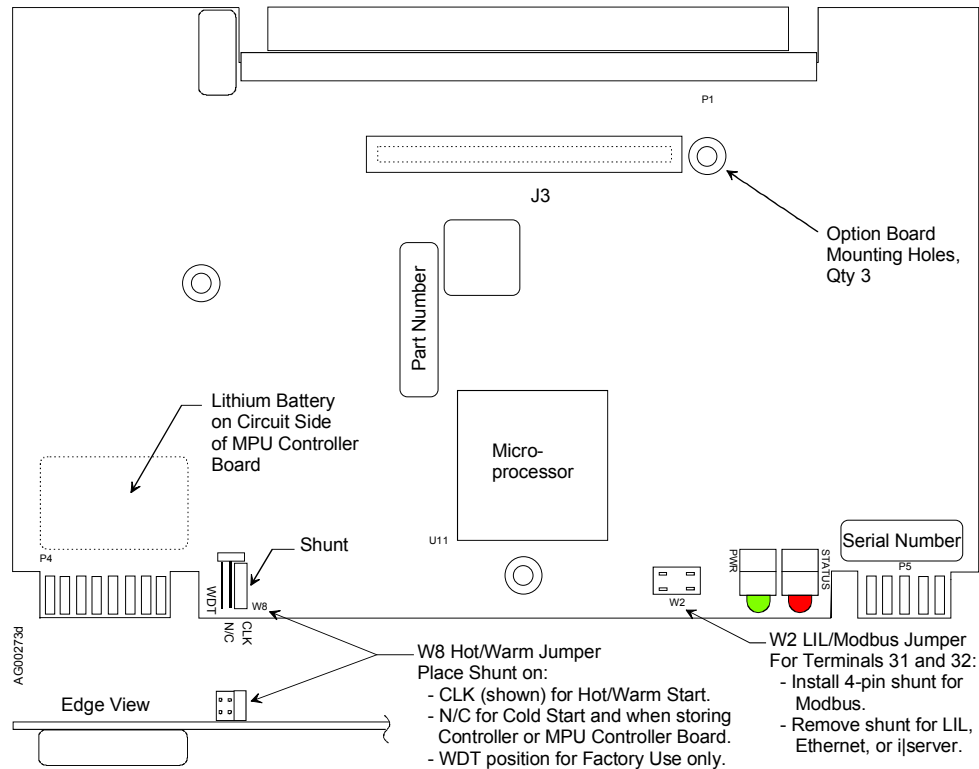

FIGURE 3 MPU Controller Board, Setting Installation Jumpers
6. Set MPU Controller board jumpers W2 and W8. Refer to Figure 3.